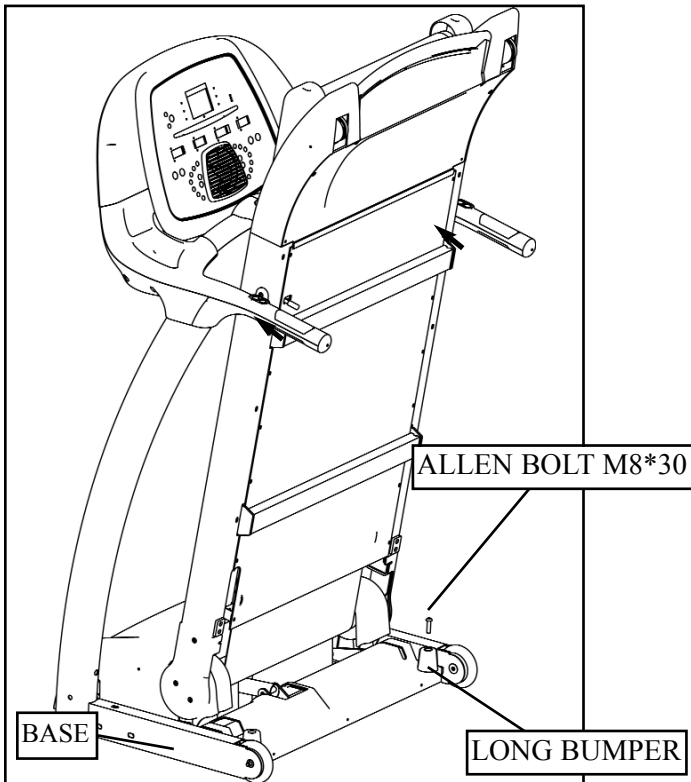
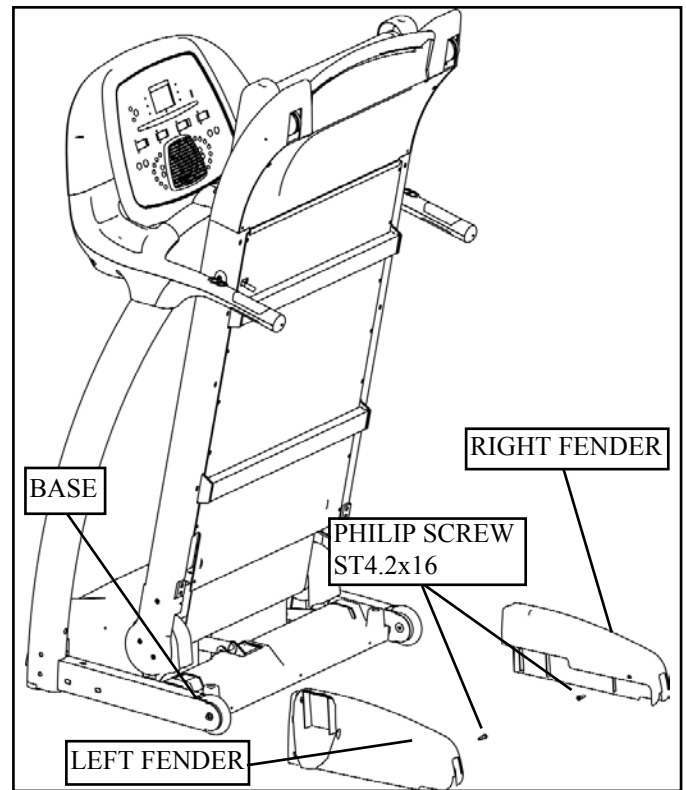

Figure 7a: Long Bumper Removal
Figure 7b: Left and Right Fender Installation
9. Remove the two Long Bumpers from base of treadmill as shown in Figure 7a. Install the Left and Right Fender to Base using Philip Screw ST4.2X16 as shown in Figure 7b. Reinstall both Long Bumpers.